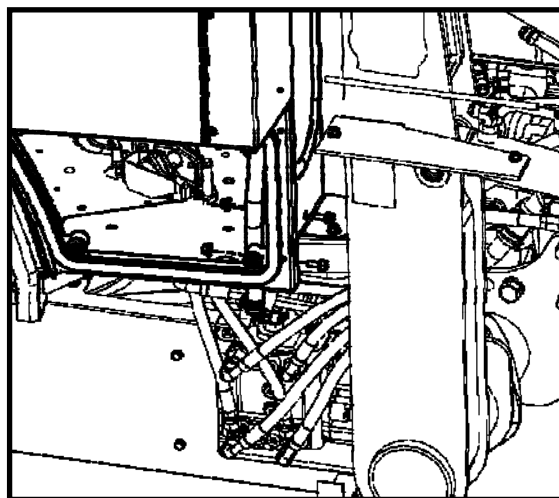

Figure 6.8: Side Frame to Cowl Bolts
- 6.8 Fasten the side frame to the front of the cowl (see Fig. 6.8). Leave hardware loose.